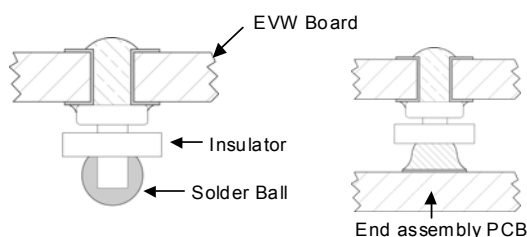

Figure 21. Column Pin Connector Before and After Reflow Soldering.
The surface mountable modules in the EVW family use our newest SMT technology called "Column Pin" (CP) connectors. Figure 21 shows the new CP connector before and after reflow soldering onto the end-board assembly.